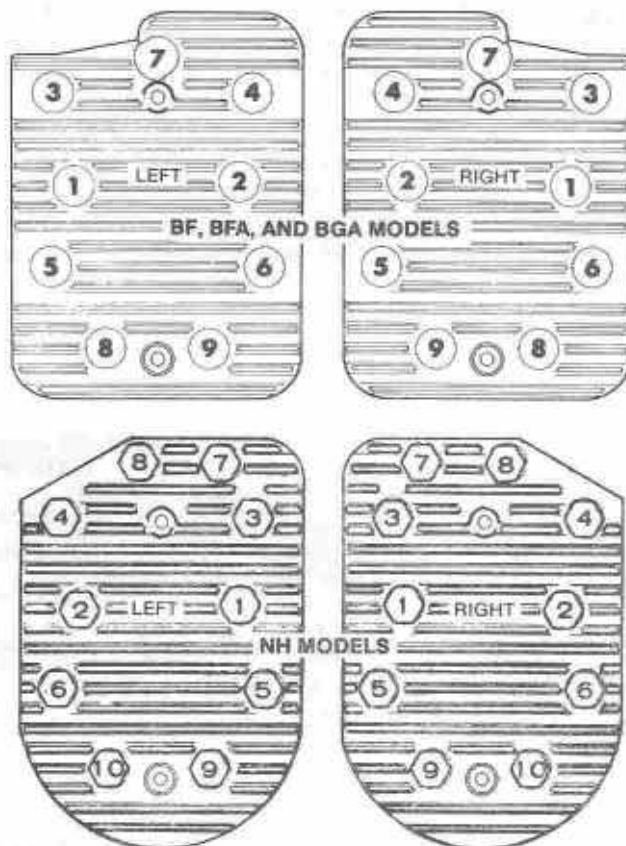

FIGURE 54. CYLINDER HEAD TIGHTENING SEQUENCE
4. Place heads in position and follow head torque tightening sequence shown in Figure 54. Start out tightening all bolts to 5 ft. lb (7 Nm), then 10 ft. lb (14 Nm), etc., until all bolts or stud nuts are tightened to the specified torque (see Specifications section).